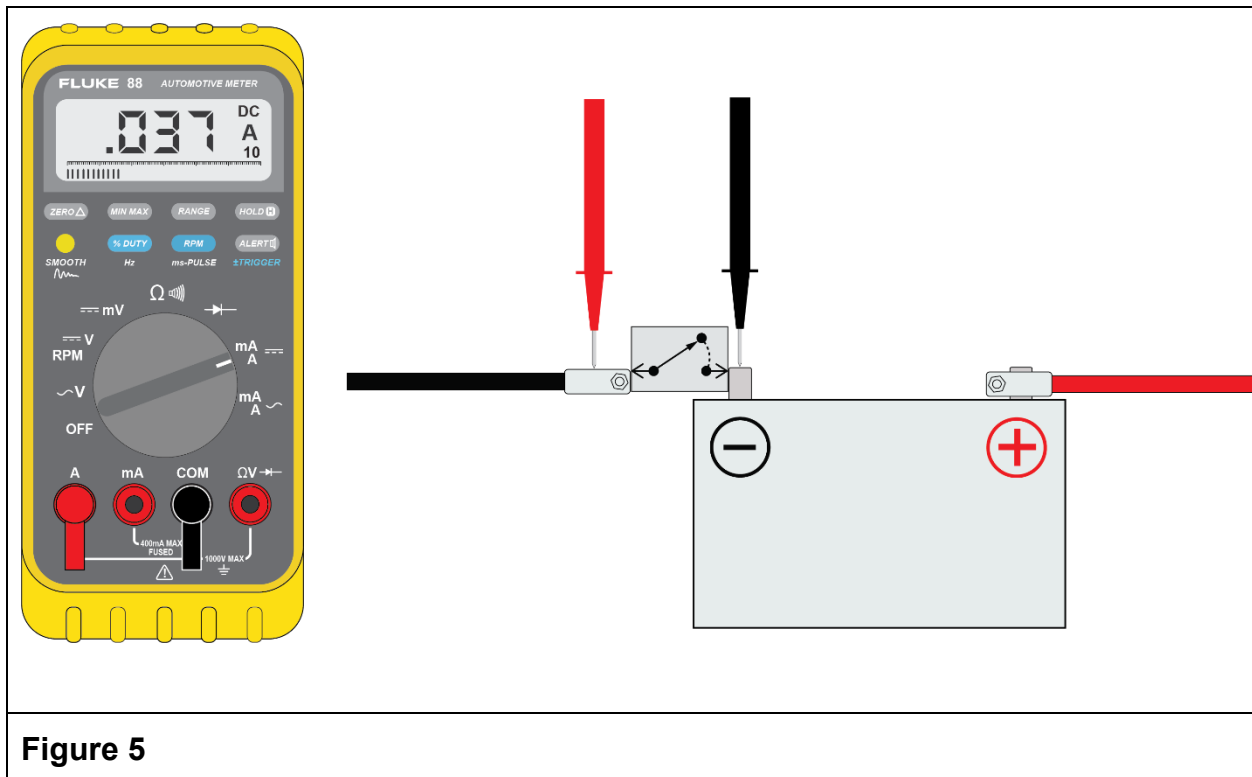

Figure 5
6. With the fused jumper connected, open the isolation switch and wait for one minute. If the 10A fuse does not fail, close the switch and replace the fused jumper with an ammeter set to measure amperage. (See Figure 5.)